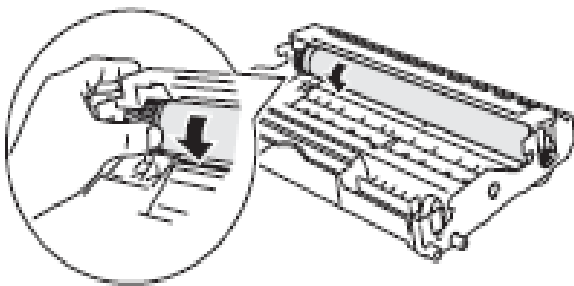

Fig 1
- Using the cog to the left hand side rotate this around to turn the roller, locate any marks/dirt/damage etc on the drum (*Fig1*)